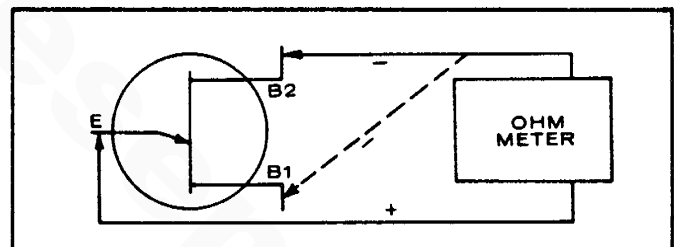

FIGURE 16.
2. With the positive lead on E, the resistance to either B1 or B2 should be between 500 and 10,000 ohms. See Figure 16.